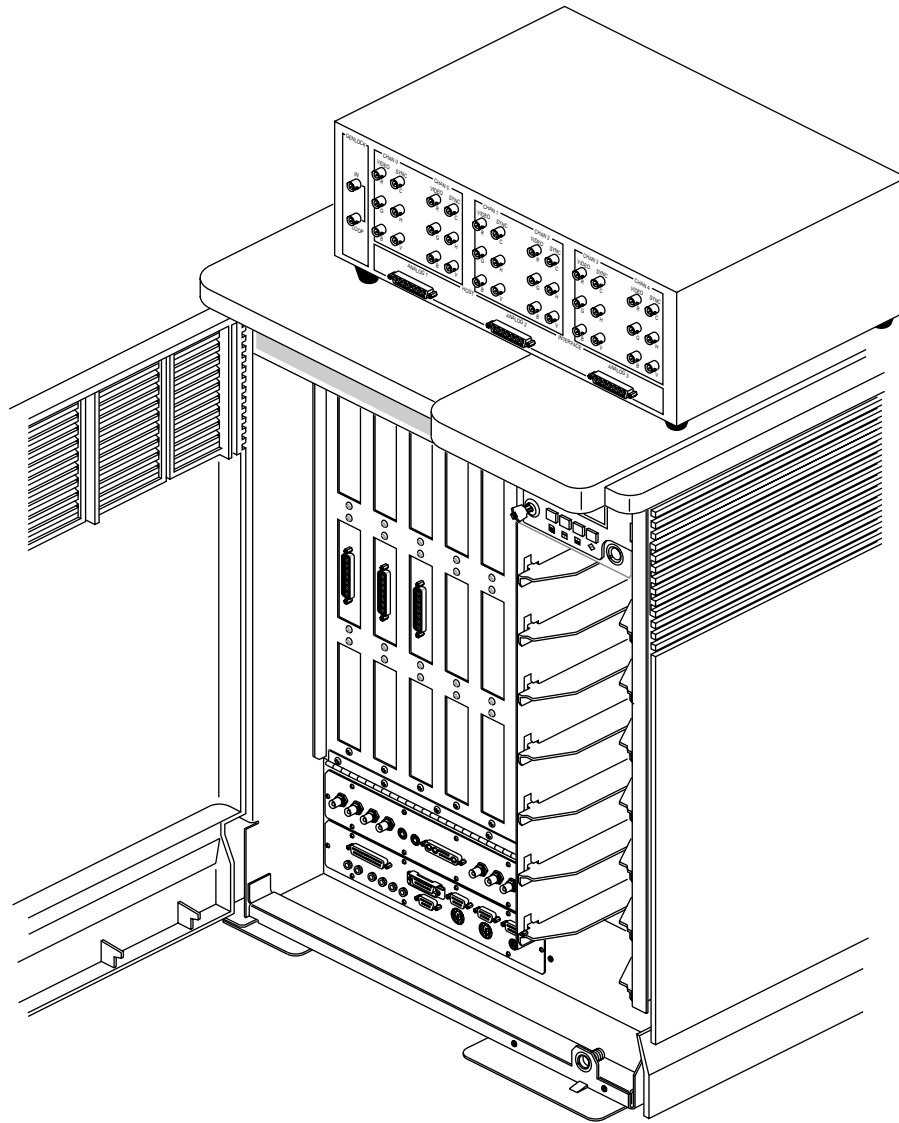

Figure 3-15 Breakout Box on Top of Deskside Chassis
2. If the customer wants the breakout box placed on top of an Onyx, swap two of the feet on the breakout box for the two taller feet included with the breakout box, as shown in Figure 3-15.